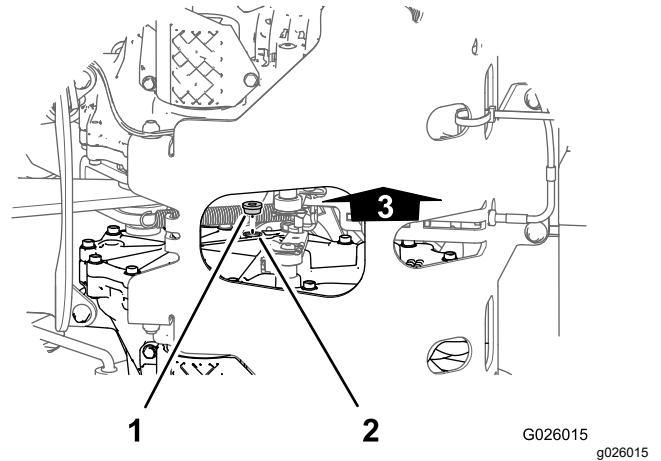
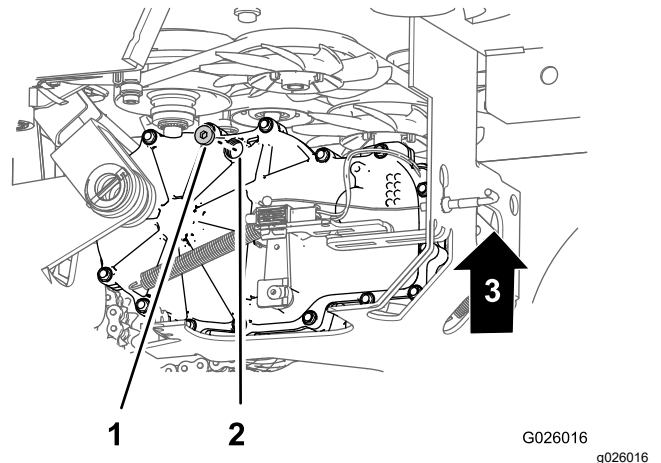

Figure 69
Figure 70
2. Align a drain pan under the sight plugs of the transmissions (Figure 69 and Figure 70).
3. At the inboard side of the transmission, near the top, remove the sight plug from 1 of the transmissions (Figure 69 and Figure 70).